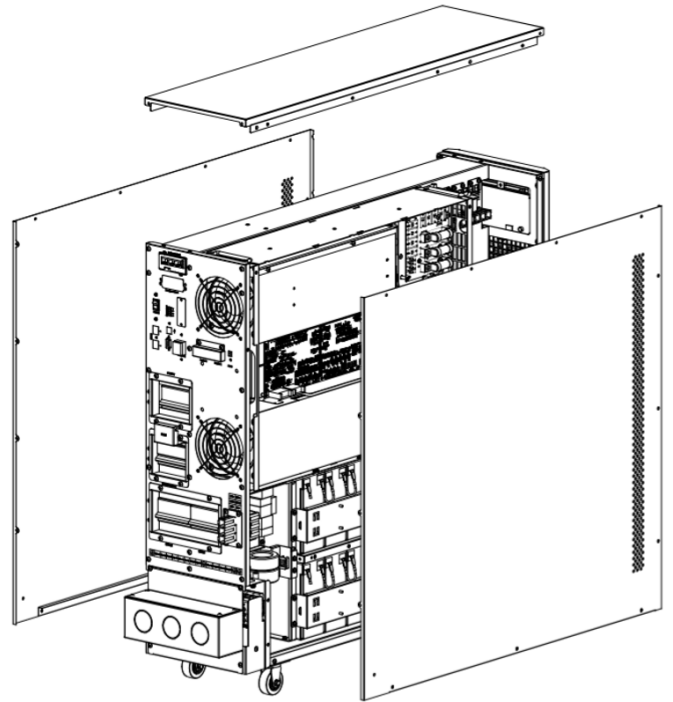

Figure 3-7: Remove top, right and left plates.
2. Remove top, right and left plates (Figure 3-7).